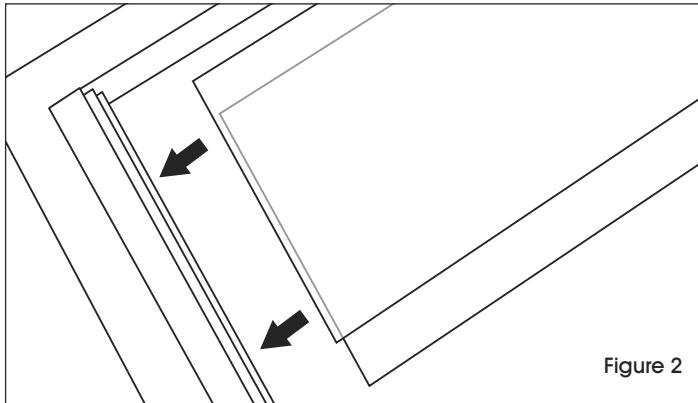

Figure 2
4. Place one end of each plastic sheet onto each aluminum track inside the message center, previously installed. Slide the second aluminum track onto the other end of each plastic sheet. (See Figure 2)